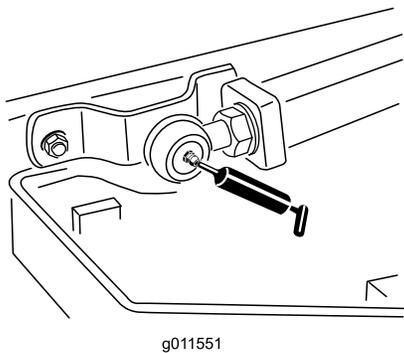

Figure 82
- 2 lift-arm-ball joints (Figure 82)